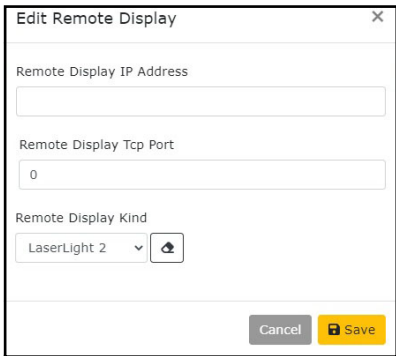

Figure 6-12. Edit Remote Display Window
- Select **Save** (see Figure 6-12 on page 73).